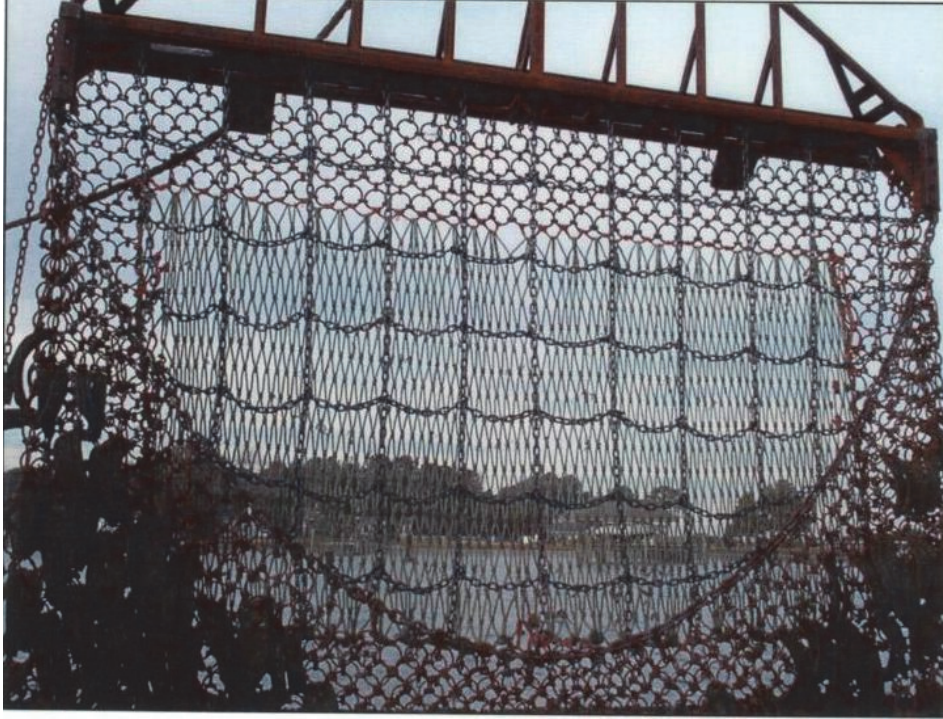

Figure 41. Scallop dredge with turtle chain mat.
- *Turtle Chain Mat*: A modified chain arrangement composed of connected rock and tickler chains, configured such that the openings formed by the intersecting chains have no more than four sides, and each side may not exceed 14” in length (see Figure 41). The chains must be hung to cover the opening of the bag, such that the rock chains extend from the back of the cutting bar sweep.